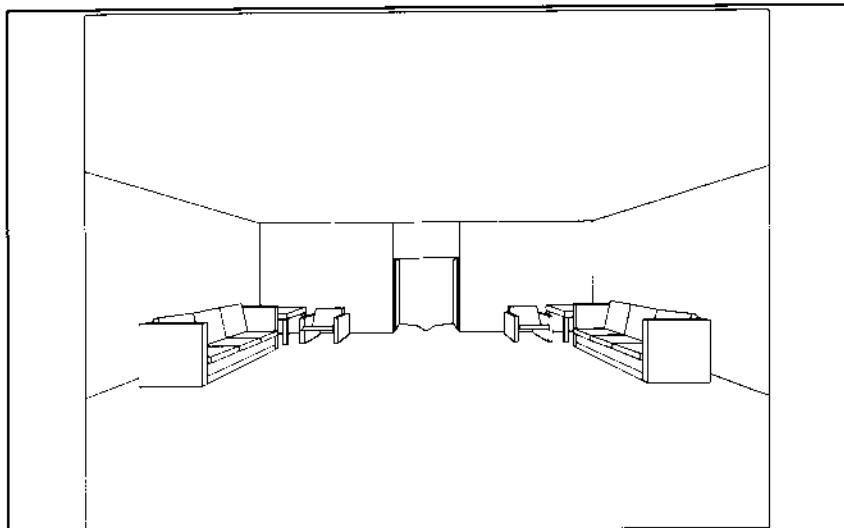

Figure 6.
4. The adjusted view will appear wider, including more of the furniture and front entry elevation as shown in Figure 6.